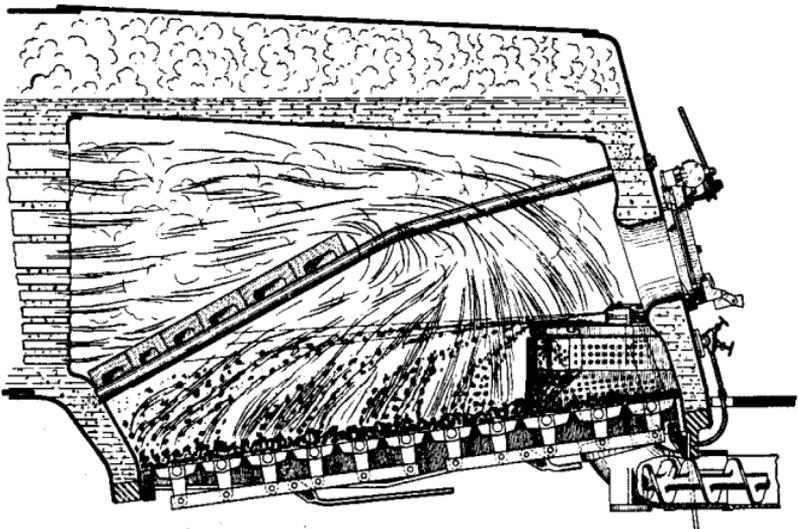

FIG. 38 -Side View of Fire Box Showing Distribution with Standard Stoker.
**Stoker Firing** (Fig. 38, page 56):—In stoker firing the fire should be carried much lighter than with hand firing. Start with a clear bright coke fire, free from clinkers. Avoid overloading the fire box—starve the fire.
No matter what kind of coal you may have on the tender, it is important to realize that no set jet pressure can be given or used with the various kinds and sizes of coal, and it the duty of the fireman to watch the fire very closely, particularly when starting out, to regulate the jet pressure to get the best distribution (Fig. 38, page 56), to supply only the required amount of coal, and to watch the fire very closely by shutting off the stoker and looking at the entire fire (not just the back portion) and to know at all times the condition of the fire.
OVER FIRE DOOR** **FIG 38-A**